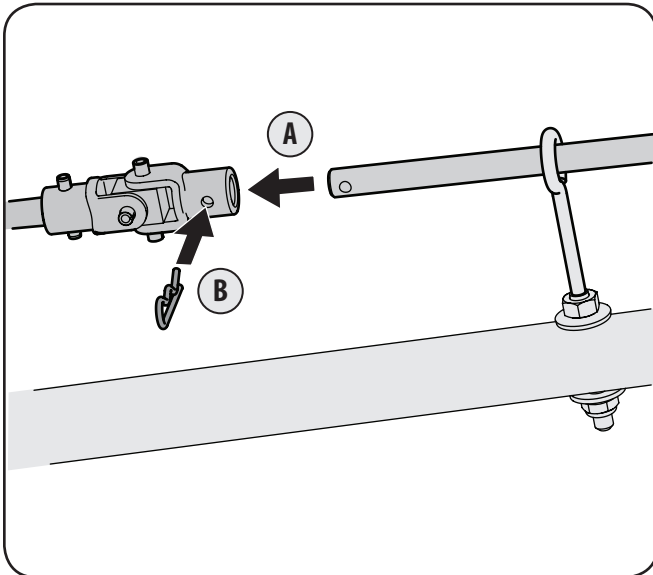

Figure 3-16
2. Secure the upper chute crank rod (A) to the joint block on the lower chute crank rod with the cotter pin (B) provided. See Figure 3-16.